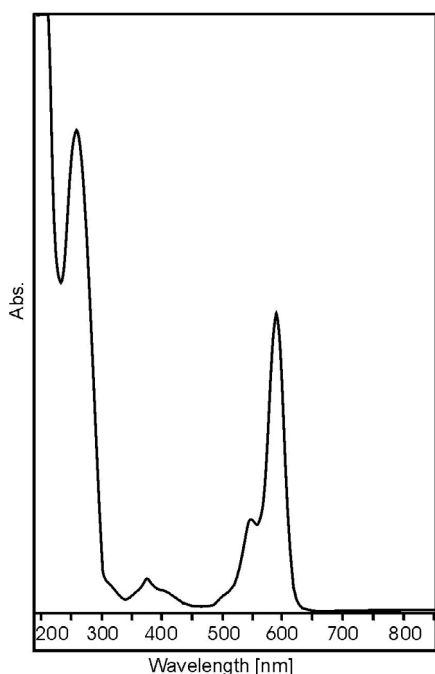

Fig. 2: UV/VIS absorption spectrum.
- 4 Run a UV/VIS absorption spectrum in the 200 – 800 nm range. The resulting spectrum corresponds to Figure 2.